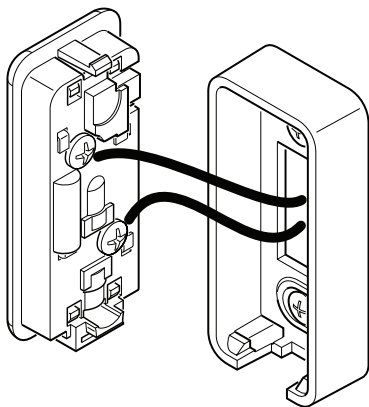

Figure 3 - Attach Chime Wires to Push Button (Back of Push Button Shown)
3. Attach the two wires from your chime and transformer to the screw terminals on the back of your push button (see Figure 3). Press push button to test function.